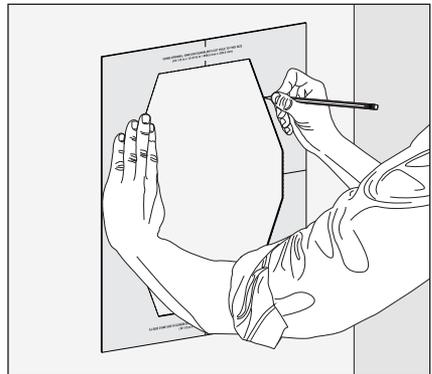

Fig. 3b
- 2) Trace along the mounting template cut-out (Fig. 3b).